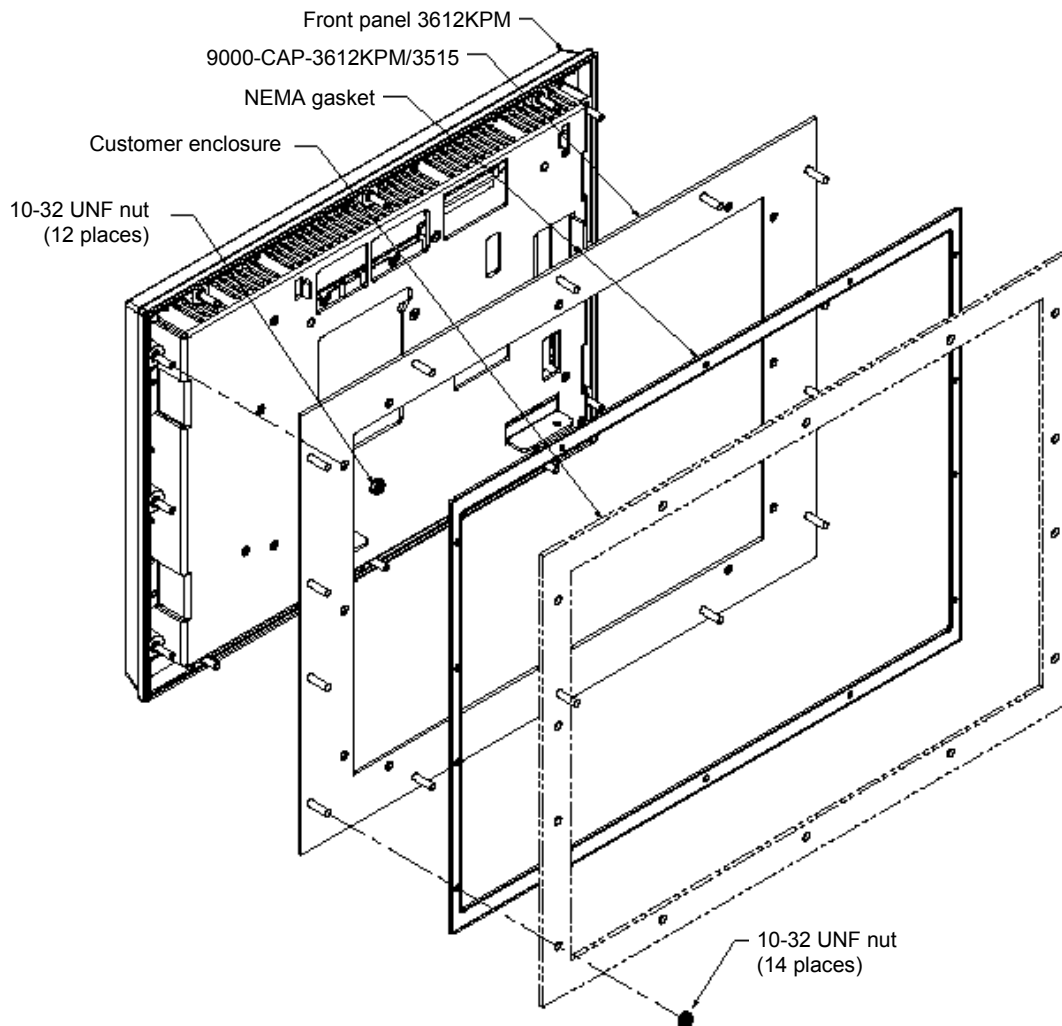

Figure 1. 9000-CAP-3612KPM/3515 Cutout Adapter Plate Installation
2. Mount the front panel of the replacement unit to the cutout adapter plate as shown in Figure 1. Torque 10-32 UNF nuts to 25 lbs-inch (12 nuts total).
3. Mount the combined 9000-CAP-3612KPM/3515 and front panel assembly to the existing cutout as shown in Figure 1. Torque 10-32 UNF nuts to 25 lbs-inch (14 nuts total).